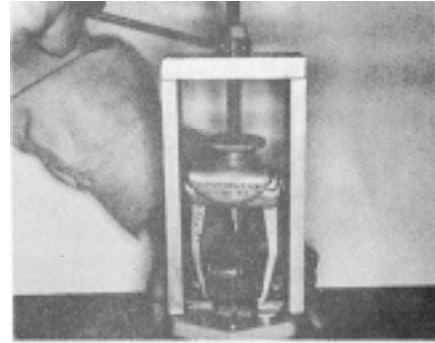

Fig. 5-47, F538. Using ST-709 to pull governor weight assembly
3. To remove governor weight carrier assembly from drive cover use ST-709 Puller to pull weight shaft assembly and bushing from front cover. Fig. 5-47. The bushing is locked on shaft with a snap ring and will usually come out of cover with weight shaft assembly, however, if snap ring pulls off shaft leaving bushing in front cover, use an internal engaging puller of ST-709 to pull bushing. If shaft pulls off of cast carrier, use ST-667 to remove shaft and bushing.